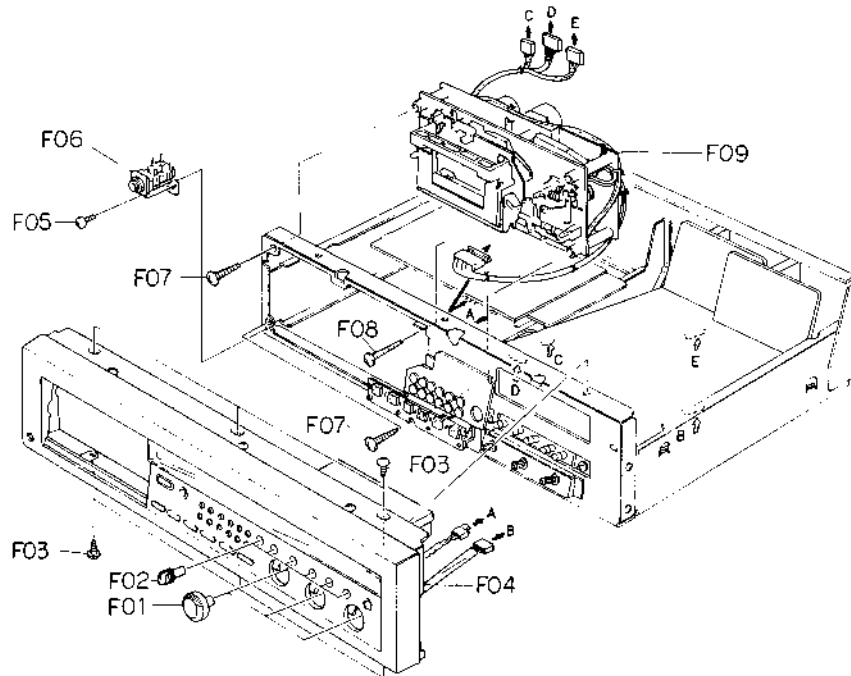

Fig. 2.2.2 Serial Nos.: A12101001 - A12102101
- (1) Refer to Fig. 2.2.2. Remove Front Panel Ass'y referring to item 2.4.
- (2) Remove the connectors and wires connected by wrapping from F02 (Logic P.C.B. Ass'y).
- (2) Remove the flat cable, connectors and wires connected by wrapping from F10 (Main P.C.B. Ass'y).
- (3) Remove F07, F08 and F09, then disassemble F10 (Main P.C.B. Ass'y).
- (2) Remove F14, then disassemble F15 (Volume P.C.B. Ass'y).
- (2) Remove F16, then disassemble F17 (Control Button Ass'y).
- (2) Remove F18, then disassemble F19 (Record Cal. P.C.B. Ass'y).